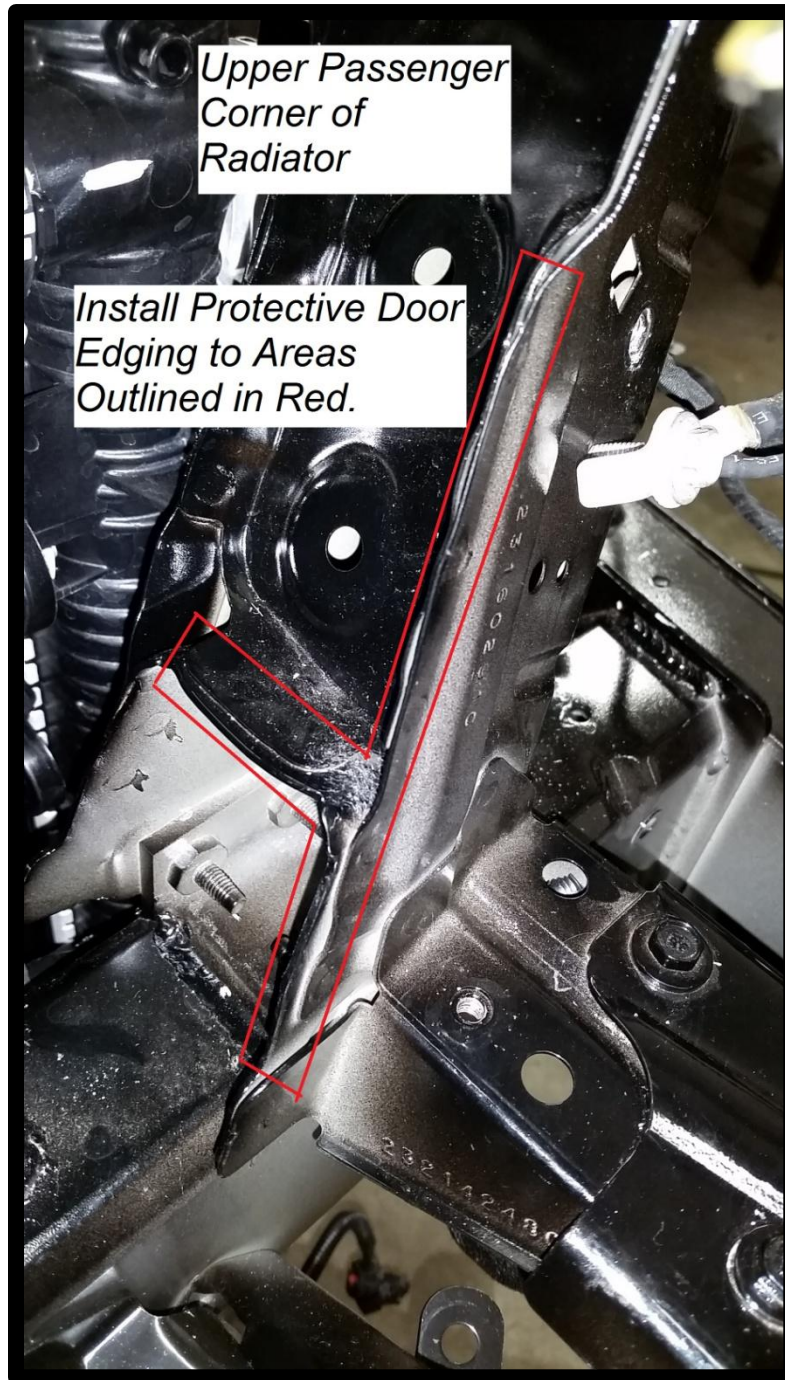

Figure 38: Installing Protective Door Edging
5. The provided protective door edging will be installed onto the sheet metal seam of the radiator support where the intercooler outlet tube will be resting against. Cut the door edging into two pieces and apply as shown in Figure 38. There should be some remaining door edging that will be used later on.